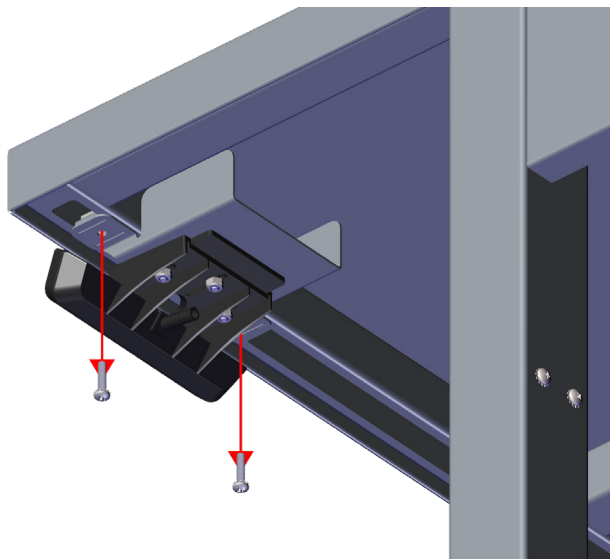

Fig. 12: Remove Old Memory Control Assembly
5. Remove two bolts attaching the entire memory control pad assembly (Fig. 12).